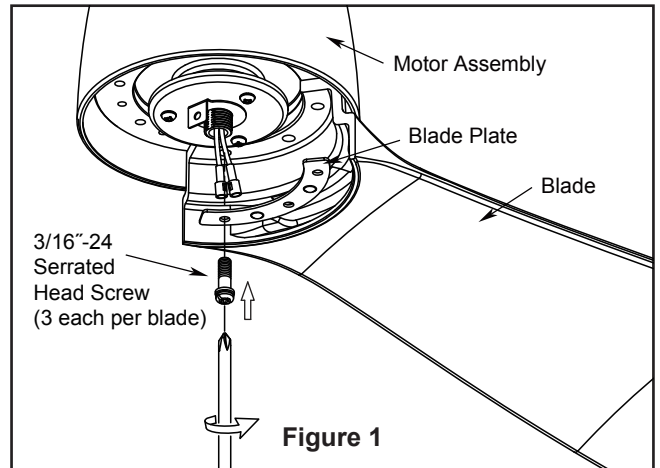

Figure 1
1. Assemble canopy by rotating key slot in canopy over shoulder screw in hanger bracket, taking care not to pinch the wires. Tighten shoulder screw. Fully assemble and tighten second shoulder screw that was previously removed. (Figure 1)
- Align blade holes with posts on the motor assembly flywheel. Make sure the blade is fully seated against the flywheel. Place blade plate over the blade with holes aligned and assemble blade to flywheel using serrated head screws. Fully tighten the screws that attach the blades to the motor assembly flywheel. (Figure 1)